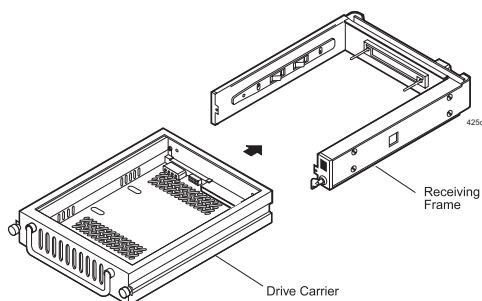

Figure 2: Ultra320 DE200 Receiving Frame and Carrier
The StorCase Technology **Data Express® Ultra320 DE200** is composed of a receiving frame which supports SCSI Ultra320 interfaces and fits within a 5.25" half-height peripheral slot (Figure 2). This 16-bit I/O can support up to 320MByte/sec transfer rates. The receiving frame contains one (1) removable drive carrier designed to provide durable and reliable mounting for one (1) 3.5" form factor SCSI Wide, Wide Ultra, Wide Ultra2, Wide Ultra160, or Wide Ultra320 drive.